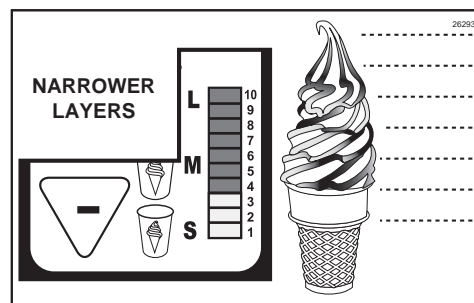

Figure 191
- To decrease the timing (for more, narrower layers), press the “-” key until the correct number of bar graph lights are illuminated. (See Figure 191.)